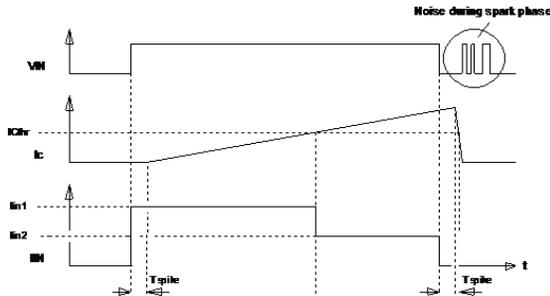

Figure 4: Bidirectional IN/IFL Diagnostic Pin
- The IN/IFL pin sinks constantly a current of  $I_{IN1}$ . When the input voltage is above  $V_{INH}$  and the collector current exceeds the  $I_{cTHR}$  threshold, the current flag is set by switching a current sink at the bidirectional IN/IFL pin to  $I_{IN2}$  (see Fig.4)